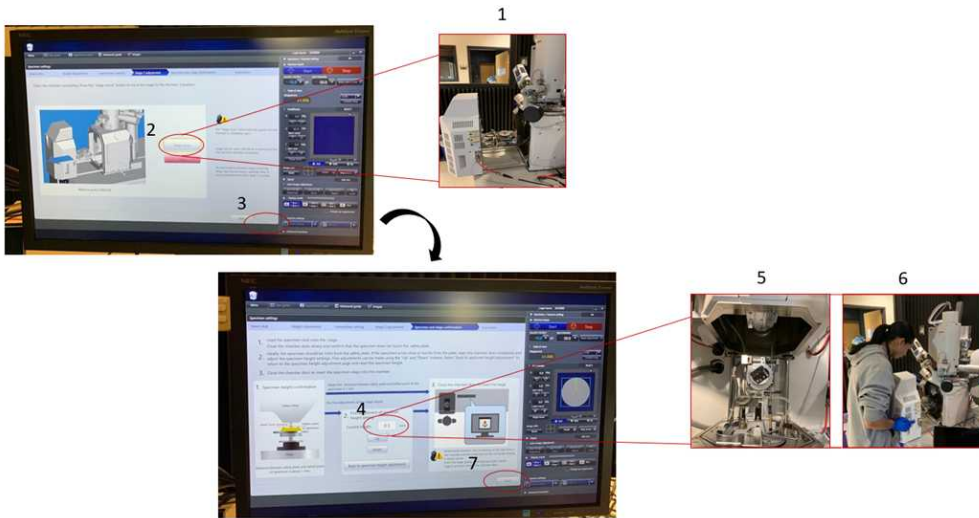

Figure 7. Placeholder in the Chamber
- Pull the gate of the chamber all the way out until you hear a switch (Fig 7)
- Click Next (See Figure 7)